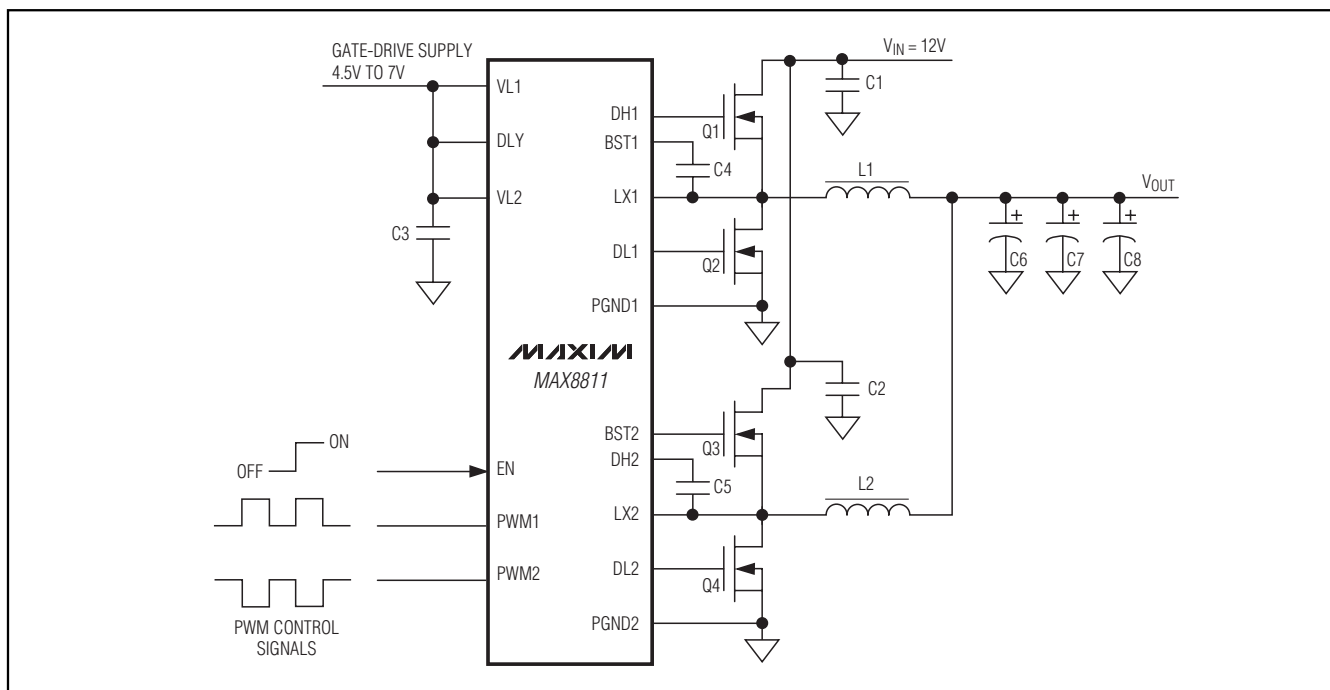

Figure 4. 300kHz, 30A/Phase Typical Application Circuit
**Table 2. Components for Figure 4, 300kHz,